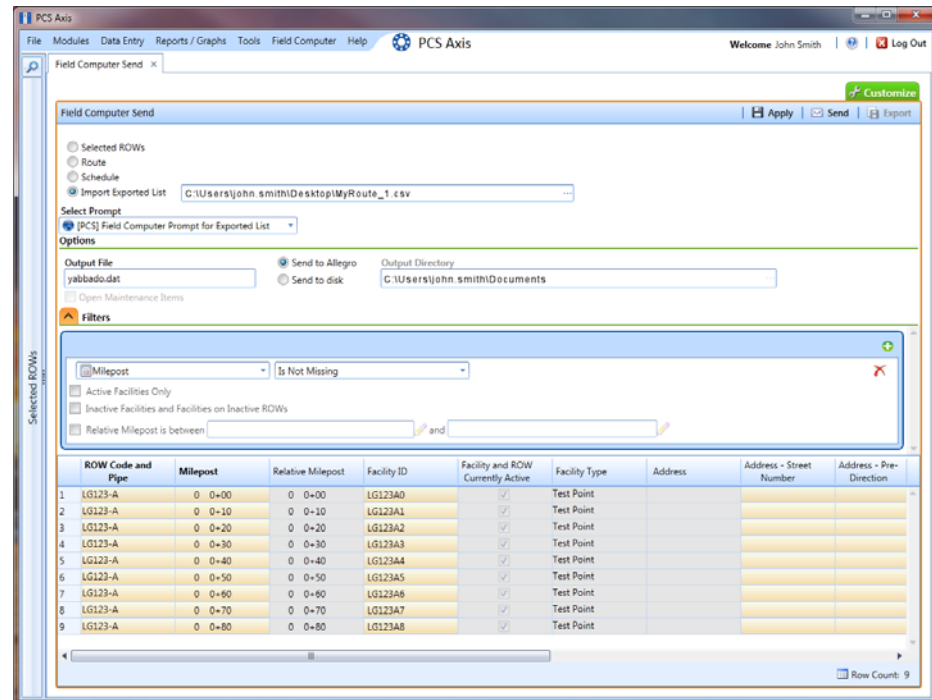

Figure 12-15. New 'And' Filter
- 4 Click the option **Import Exported List** (Figure 12-15, page 491).
- 10 If you want to work with a subset of facility records that meet *all* filter conditions, create an AND filter group using the following steps (Figure 12-15):